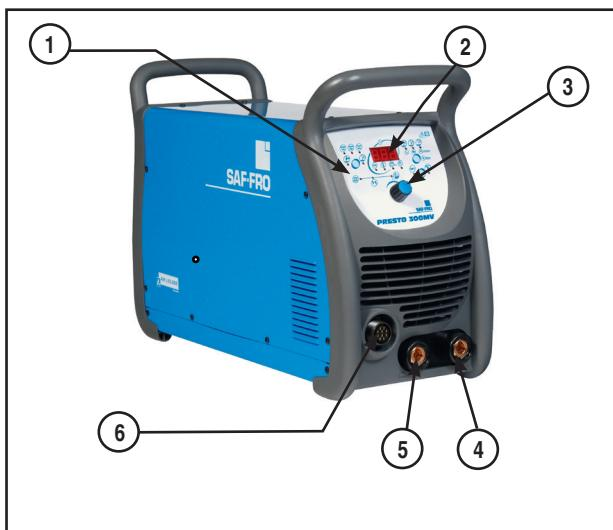

Fig.2
a. For stick DCEP (Direct Current Electrode Positive) connect the electrode holder cable to positive weld output terminal (Ref.4-Fig.2).
13. To use remote control: connect the remote control connector to the 10 pins receptacle on the front panel (Ref.6 – Fig.2) and enable it with the key (Ref.13-Fig.8). In this condition the current can be adjusted independently of the setting made on the unit, but attention: the max welding current by remote control depends on the value set on the front panel with the Encoder Control Knob (Ref.3-Fig.8).
4. Connect the work cable to positive output terminal (Ref.4-Fig.2) and the clamp near the welding zone.
5. Connect the torch cable to negative output terminal (Ref.5-Fig.2) and fit the required electrode and gas-guide nozzle on the torch (check the condition of the infusible electrode).
12. To use remote control: connect the remote control connector to the 10 pins receptacle on the front panel (Ref.6 – Fig.2) and enable it with the key (Ref.13-Fig.8). In this condition the current can be adjusted independently of the setting made on the unit, with the exception of the maximum welding current which will be that set with the Encoder Control Knob (Ref.3-Fig.8).